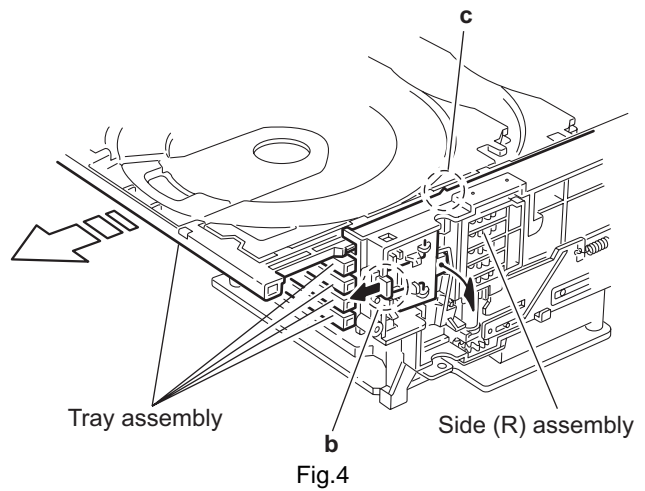

Fig.4
- (4) From the right side of the DVD changer mechanism assembly, draw out the tray assemblies toward the front while pushing the part **b** of the side (R) assembly. (See Fig.4.)
- (5) From the topside of the DVD changer mechanism assembly, move the stopper tabs **c** in the direction of the arrow and release them. Pull out the tray assemblies from the DVD changer mechanism assembly. (See Figs.4 and 5.)